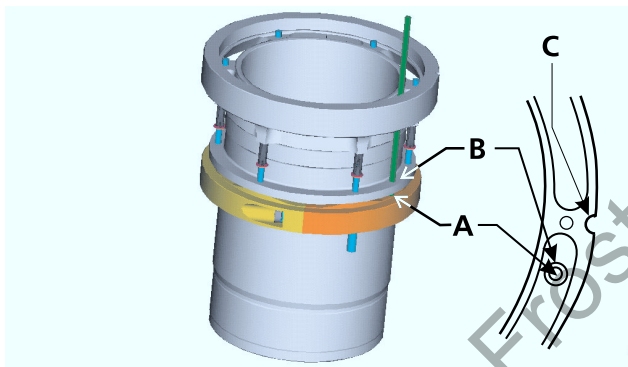

Fig.113: cylinder liner
- 4.b. Reposition both holes (A and B, Figure 113, Page 50) by rotating the cam ring with the aid of the lock pin left behind into the cylinder liner.